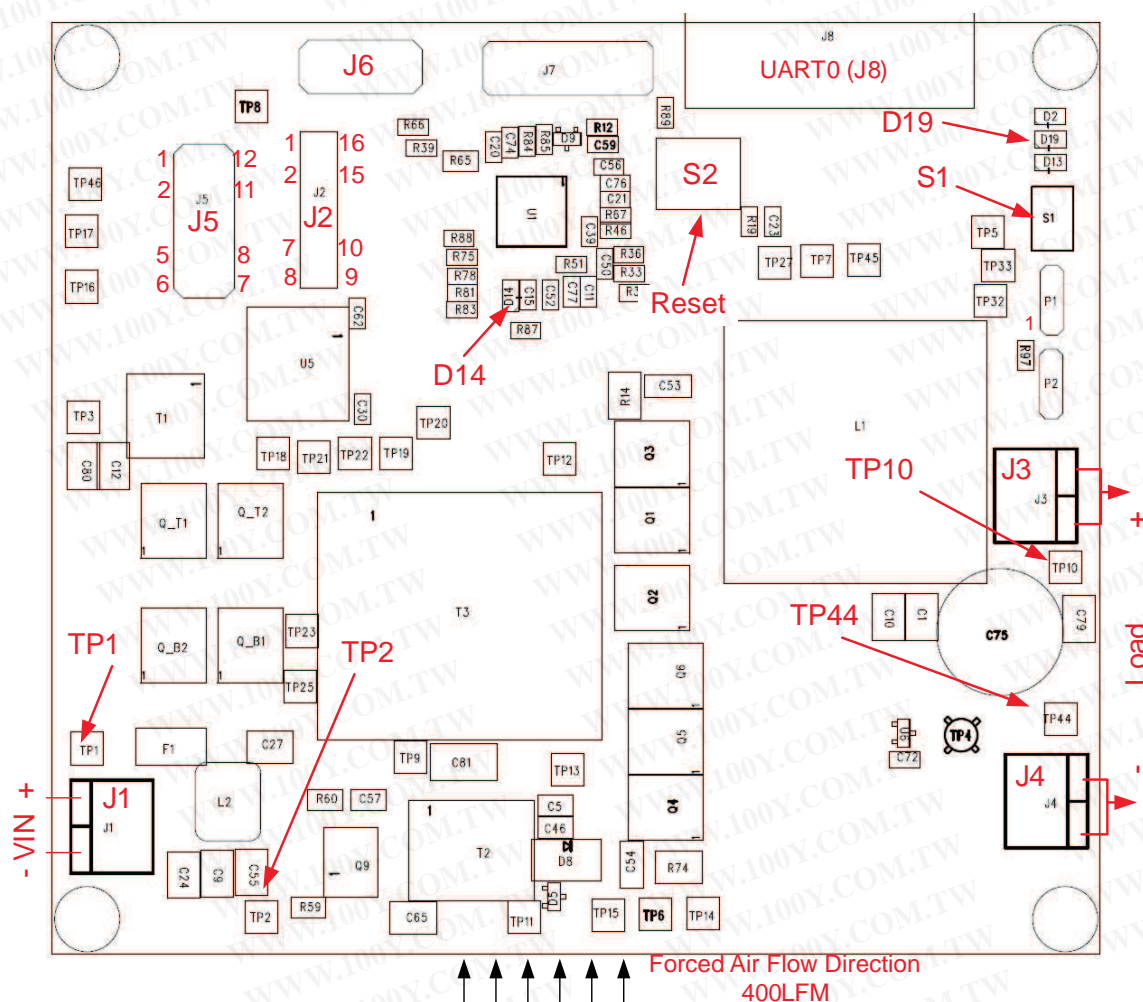

Figure 4. UCD3138FBHSEVM-029 Recommended Test Set Up
1. Refer to Figure 4 for basic set up to measure power conversion efficiency. The required equipment for this measurement is listed in Section 5.1.